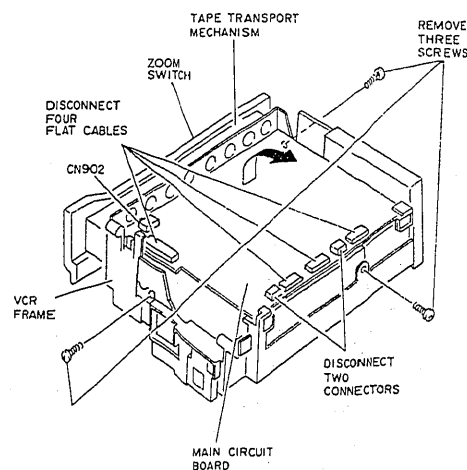
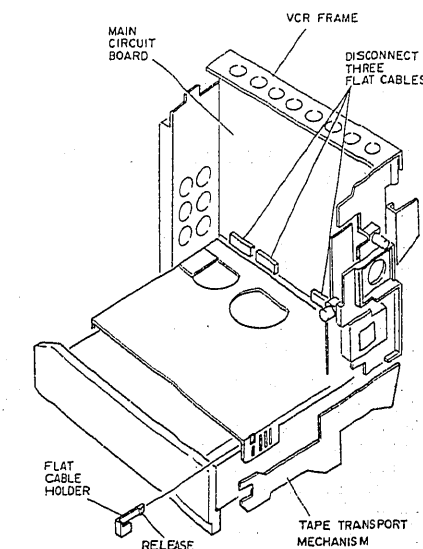

Fig. 2-13
Fig. 2-14
- 1) Remove three (3) screws holding the VCR frame. (See Fig. 2-13)
- 2) Disconnect one (1) flat cable (CN902) on the main circuit board. (See Fig. 2-13)
- 3) Remove three (3) screws holding the VCR frame.
- 5) Release one (1) tab and remove the flat cable holder. (See Fig. 2-14)
- 7) Disconnect four (4) flat cables (CN612, CN613, CN905, CN907) on the main circuit board. (See Fig. 2-13)
- 8) Disconnect two (2) connectors (CN212, CN904) on the main circuit board.
- 9) Disconnect three (3) flat cables (CN211, CN611, CN905) on the main circuit board. (See Fig. 2-14)